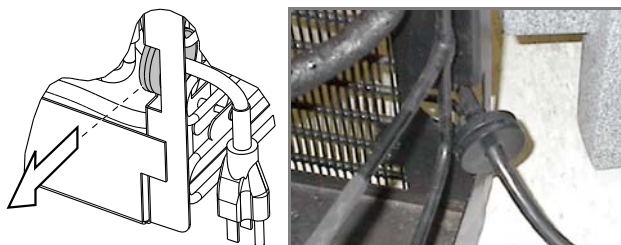

Figure 5: Remove power cord
- b. Slide the bushing sideways away from the refrigeration module until it is free (Figure 5). Use care to avoid bending the refrigeration tubing.